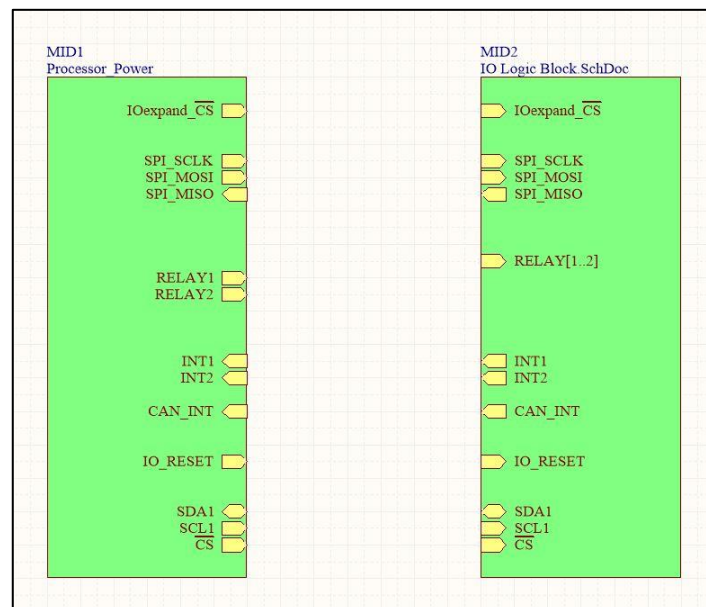

Figure 5. Sheet Symbol Alignment
23. Align the Sheet Entries from MID2 to the sheet entries in Sheet Symbol MID1, Figure 5.
Ensure to offset the Relay[1..2] sheet entry on MID2 as shown in Figure 5 as we will create a Bus connection for this shortly.